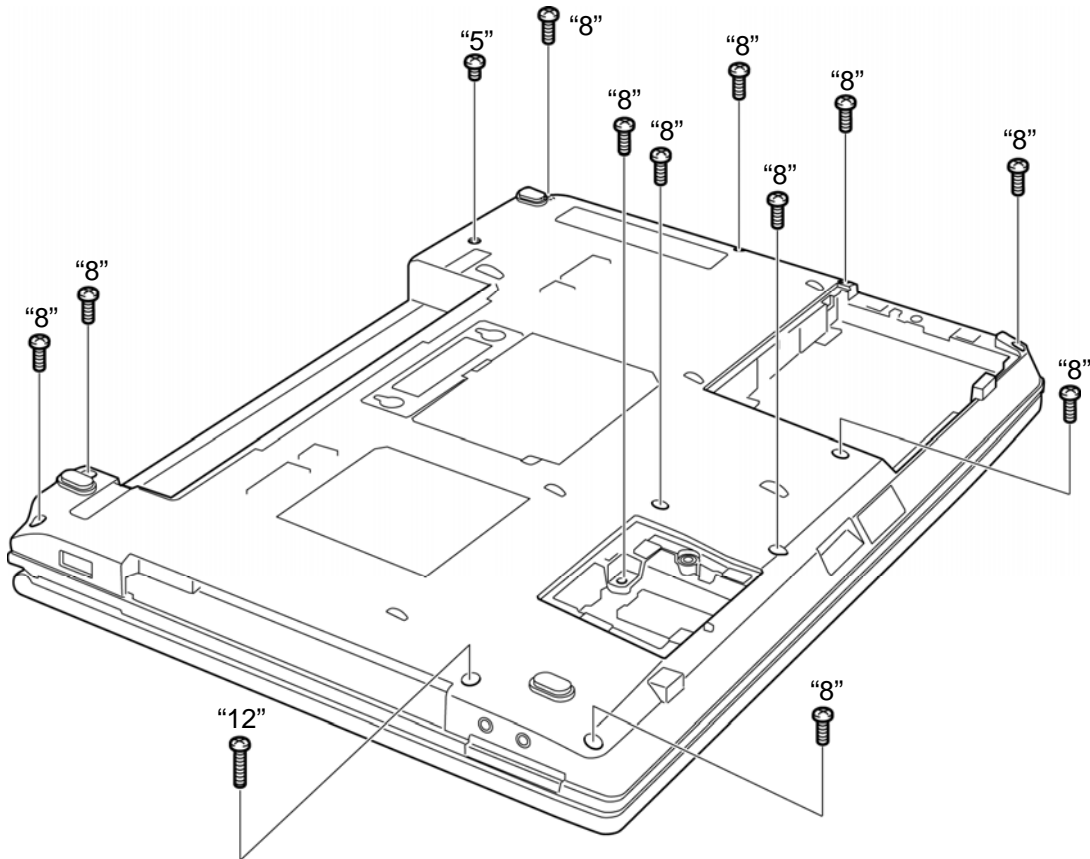

Figure 4-23 Removing the cover assembly and base assembly (2)
- M2.5×8B FLAT HEAD screw ×11 (“8” in the Figure 4-23)
- M2.5×12B FLAT HEAD screw ×1 (“12” in the Figure 4-23)
- M2.5×5B FLAT HEAD screw ×1 (“5” in the Figure 4-23)